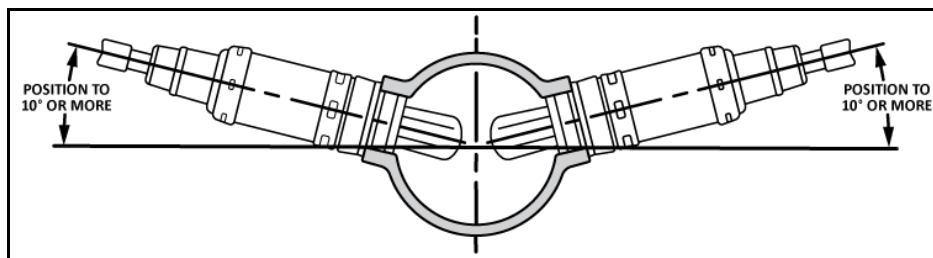

Figure 2
2. Ensure the location for the sensor is at the angle in **Figure 2**. This will help prevent condensation in the exhaust tubing from entering the sensor. The sensor can be mounted on either side of the tubing.